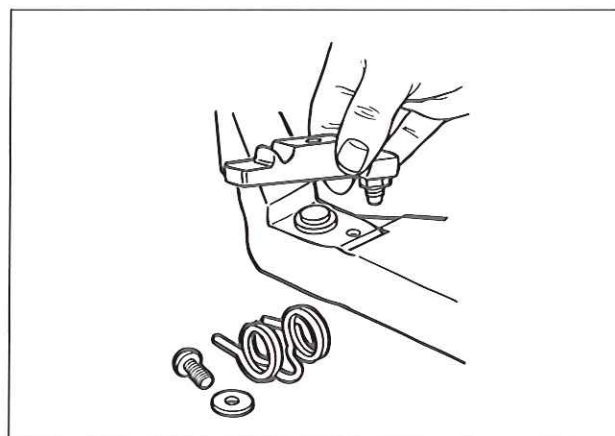

FIG. 48
6. Reinstall all components. Install the bridge with the leveling screw toward the center of the housing (see Fig. 48).